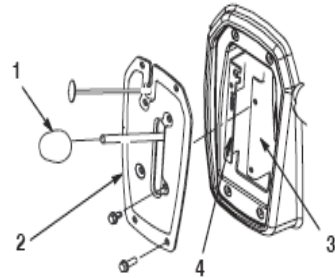

Figure 1
**Step 2.** Remove knob from the gear shift lever. (Figure 1.) (For Workman MDE skip to step 4)
**Step 3.** Remove 4 screws that secure shifter plate to shifter bracket. (Figure 1.)
**Step 4.** Remove 4 screws securing the shifter plate to seat base. Remove the shifter plate. (Figure 1.) On MDE, remove 4 screws securing receptacle face plate that will allow seat base to tip forward.